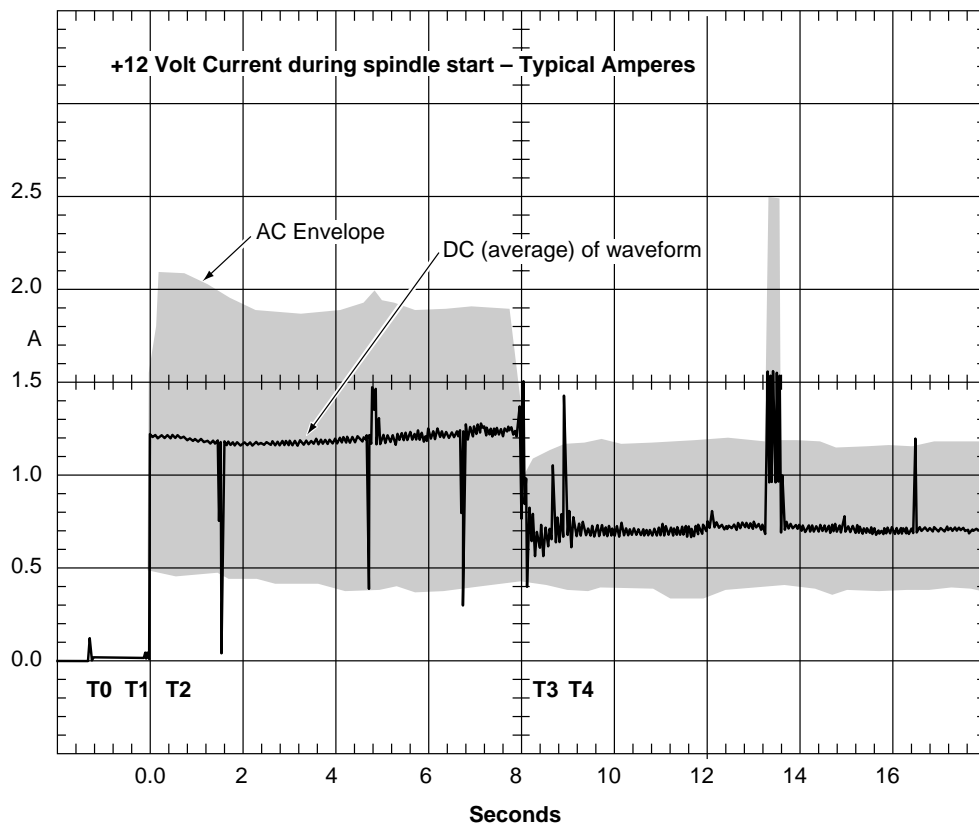

Figure 3. Typical ST318203 and ST318233 drive +12 V current profile
- [3] See +12 V current profile in Figure 3.
Figures 3 and 4 identify the drive +12 V current profiles of drives documented in this manual. The current during the various times is as shown: